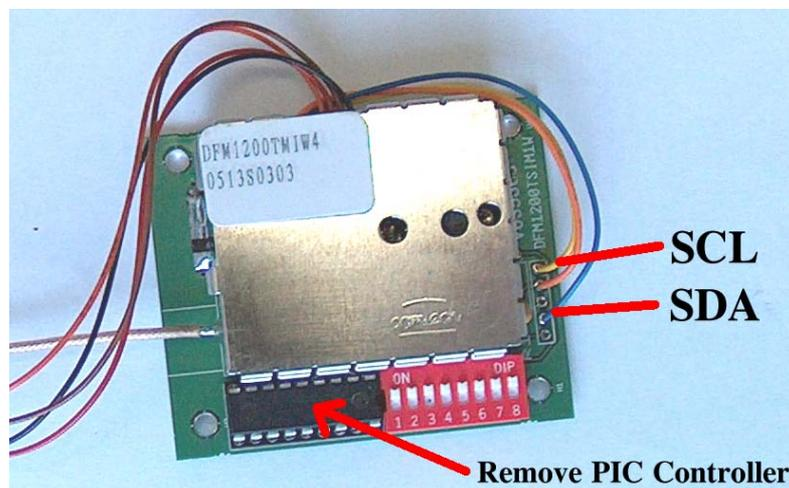

Figure 24: Detailed view DFM1200TSIM1W Board.
1. Remove the PIC Controller as indicated in Figure 24.
4. Solder the **BLUE** wire from the LCD Board labeled **SDA** Transmitter to the **SDA** indicated in Figure 24.
5. Solder the **YELLOW** wire from the LCD Board labeled **SCL** Transmitter to the **SCL** indicated in Figure 24.